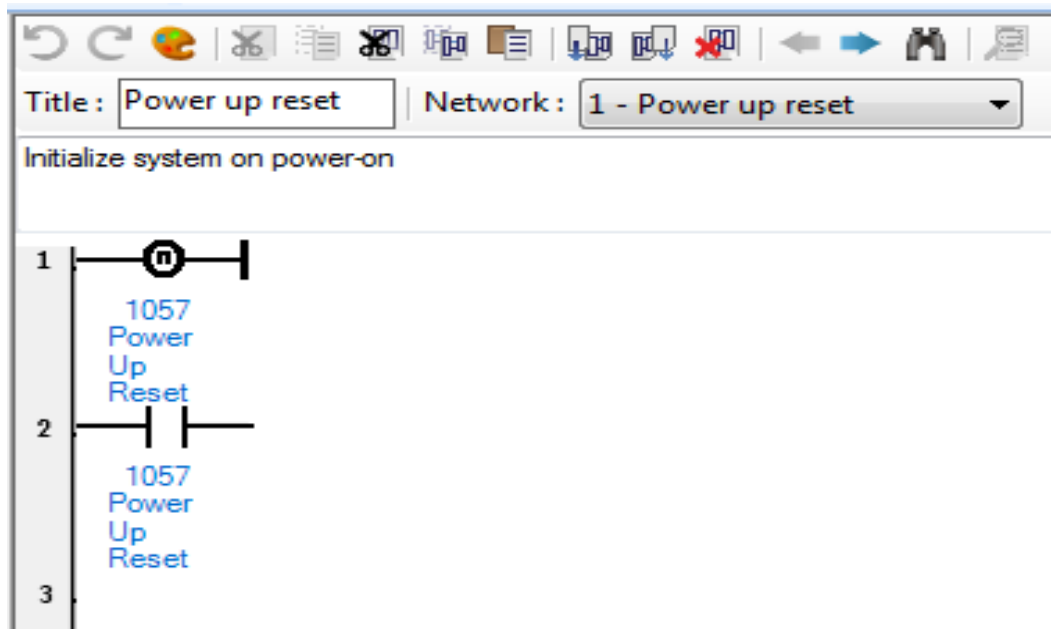

Figure 40: One Shot Coil and Normally-Open Contact
- Insert the elements as shown in Figure 40: One Shot Coil and Normally-Open **Contact**.